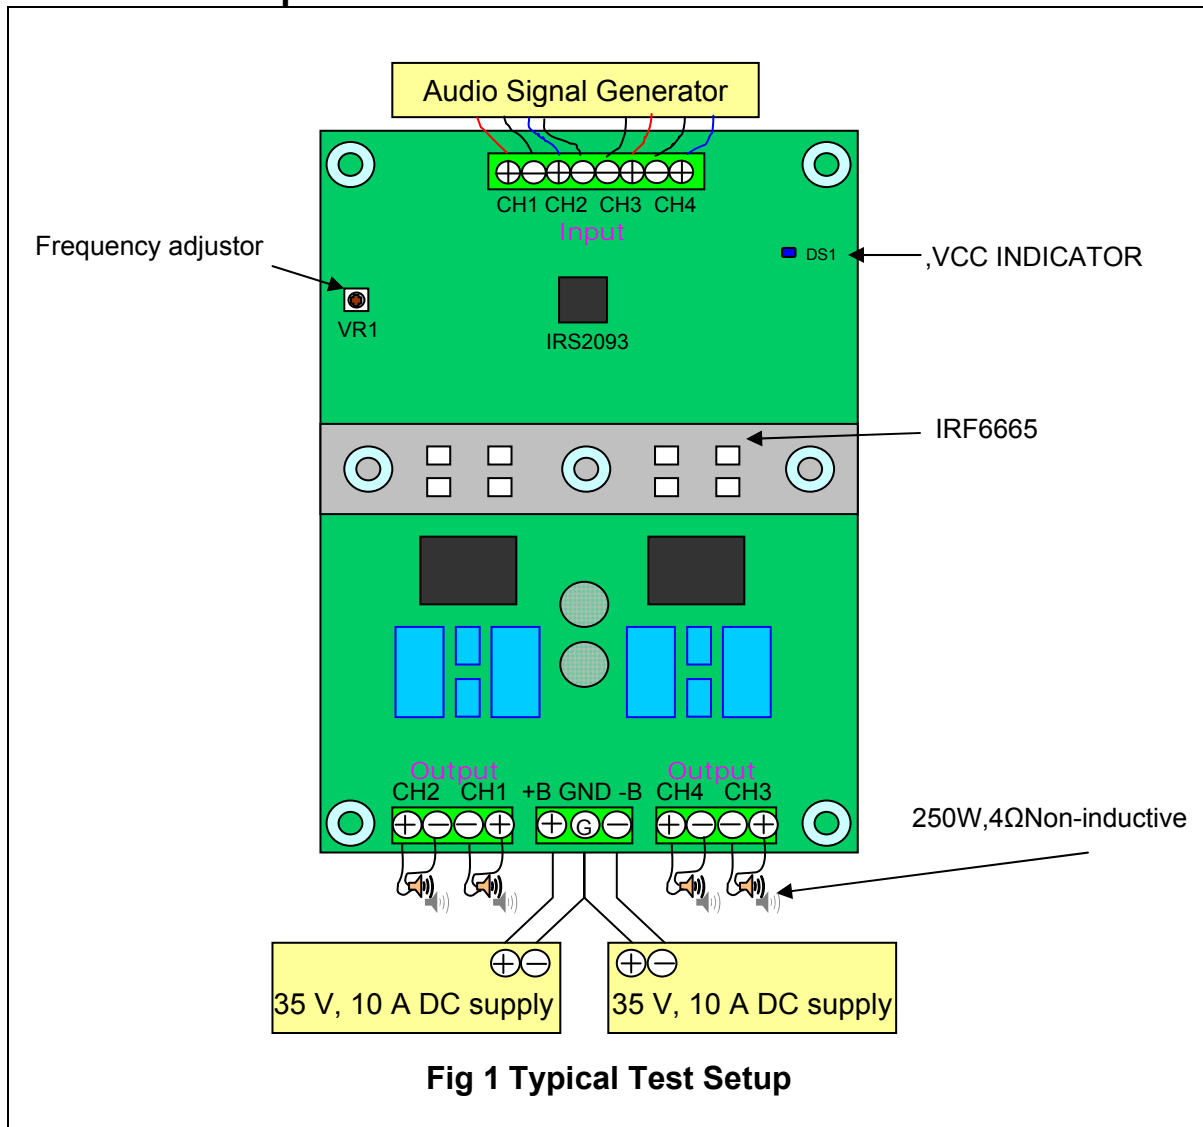

Fig 1 Typical Test Setup
1. Connect 4 $\Omega$ -200 W dummy loads to 4 output connectors (P2 and P3 as shown on Fig 1) and an Audio Precision analyzer (AP).
2. Connect the Audio Signal Generator to CN2 for CH1~CH4 respectively (AP).
5. Connect the dual power supply to P1. as shown on Fig 1